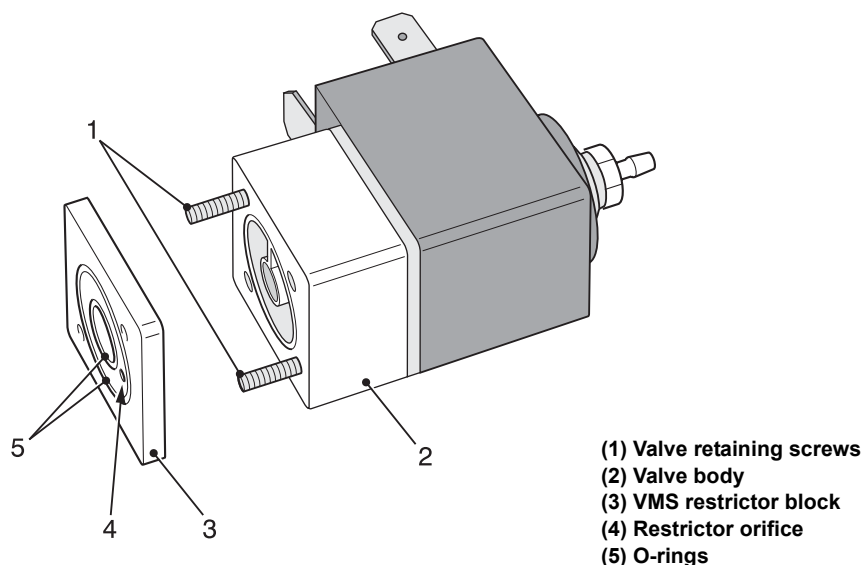

Figure 11-3. VMS Restrictor Cleaning
- 2 Pull the VMS restrictor block (Item 3 in Figure 11-3) away from the valve body (2). Retain the two O-rings from the VMS restrictor block and the two O-rings from the valve body.
- 3 Wash the restrictor block with solvent. Blow through the restrictor orifice (4) with an air line or force solvent through it.
- 5 Refit the restrictor block over the valve retaining screws, with the O-rings (5) facing outwards.